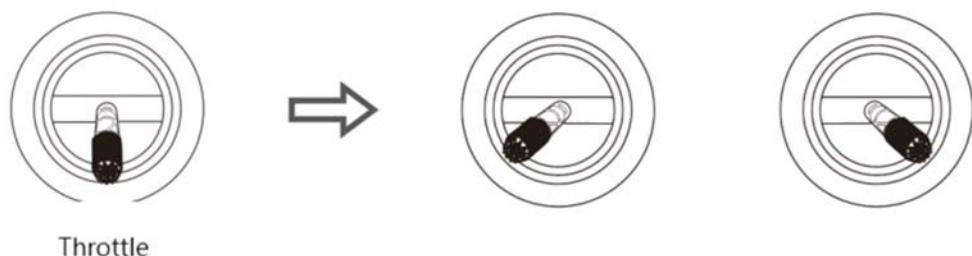

Figure 2-6 Lock and Land
Step2: After the drone lands, place the throttle stick to the down position, and then perform the locking action as shown in Figure 2-6.